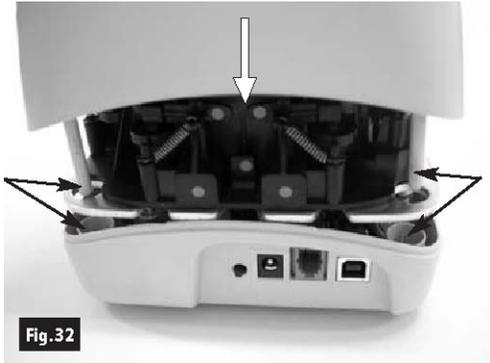
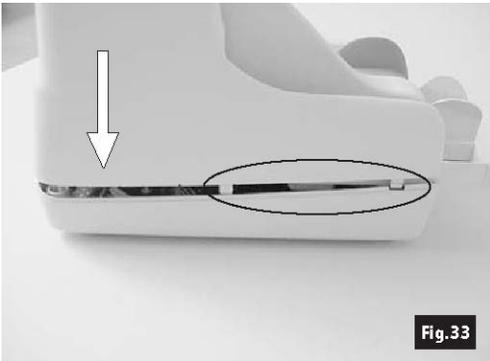

Fig.32
Fig.33
- 1 Insert the outer cover by aligning the two shafts with the holes in the bottom cover of the unit (Fig.32). Insert the two teeth located on each side of the outer cover in the bottom cover and lock it (Fig.33 and 34).